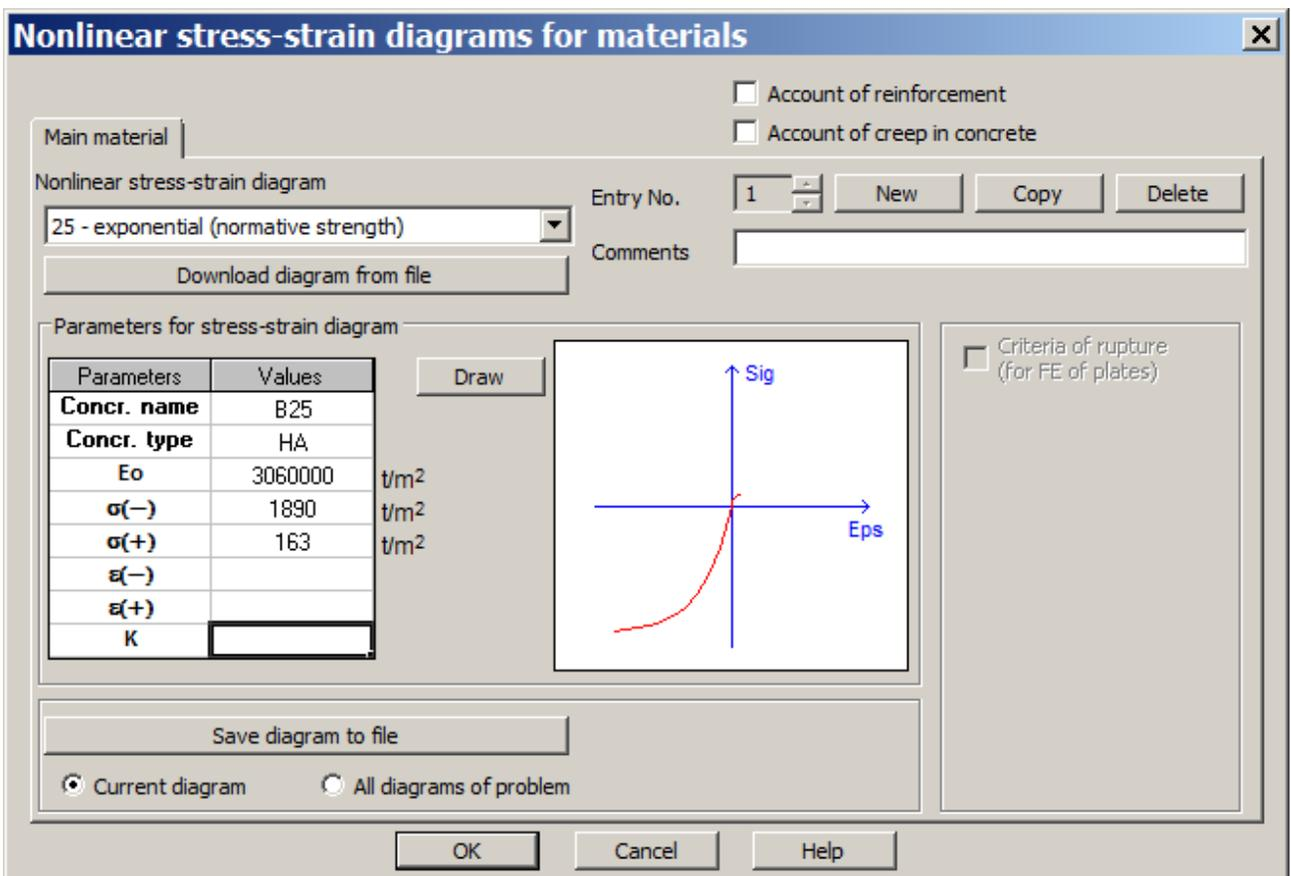

Figure 7.13 Nonlinear stress-strain diagrams for materials dialog box for main material
- ⇒ To define material, click **Material parameters**. The **Nonlinear stress-strain diagrams for materials** dialog box appears on the screen (see Figure 7.13).